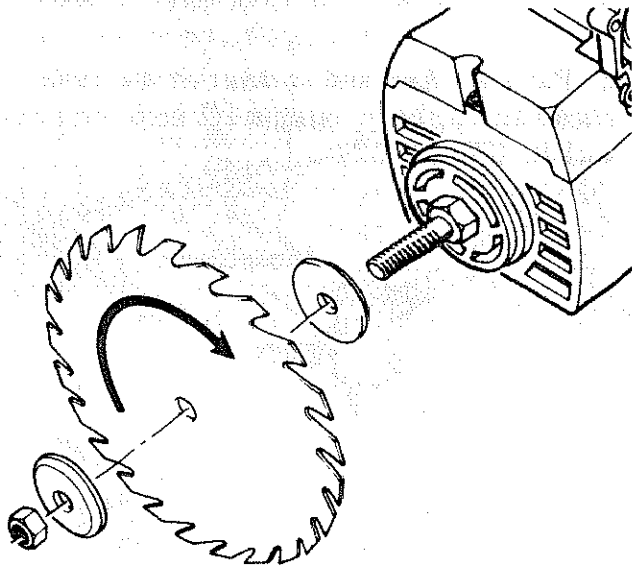

Fig. 53
2. Place the *blade* on the *arbor shaft* with a *blade collar* on each side. Make sure that the directional arrow is on the outside of the *blade*, and the teeth are pointing down at the front side of the *blade*. (Figure 53)